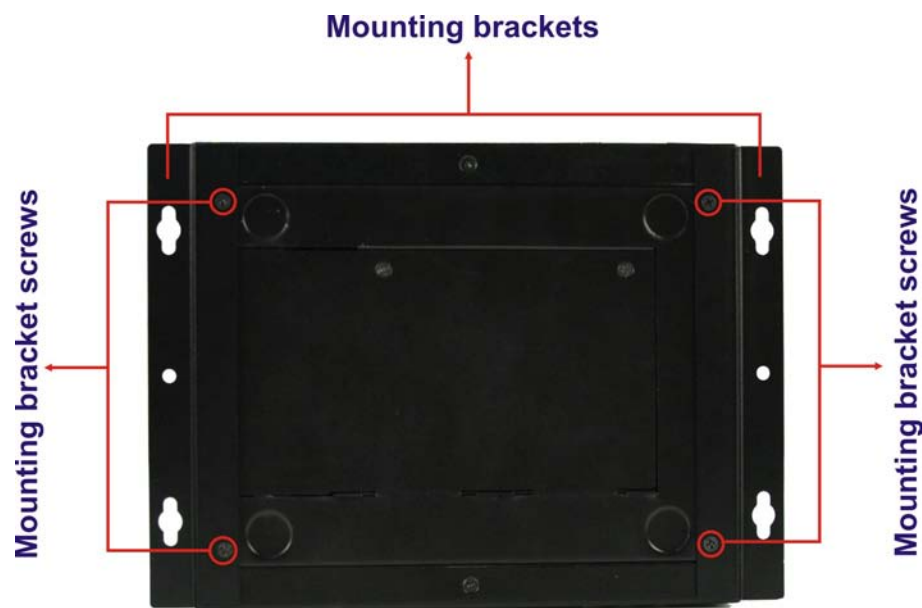

Figure 3-19: Mounting Bracket Retention Screws
Step 3: Secure the brackets to the system by inserting two retention screws into each bracket as illustrated in **Figure 3-19**.
To have the best system heat dissipation, please make sure to face the I/O panel downward (**Figure 3-19**) when mounting the system.